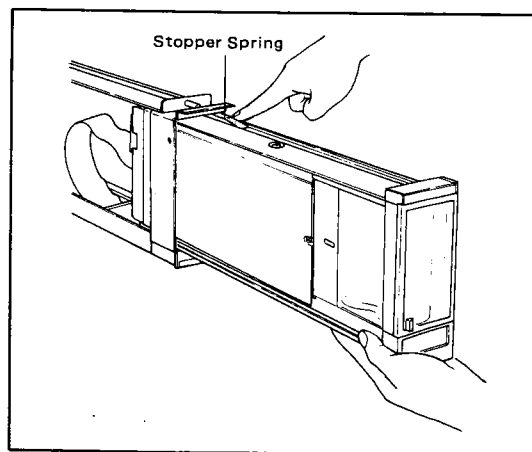

Figure 5-6. Pulling Out Internal Assembly (2).
- (2) As the internal unit is being pulled from the housing, it locks at an intermediate position without being fully extended. The internal unit can be pulled out further by pushing down the stopper spring provided on the top of the internal unit (See Figure 5-6).